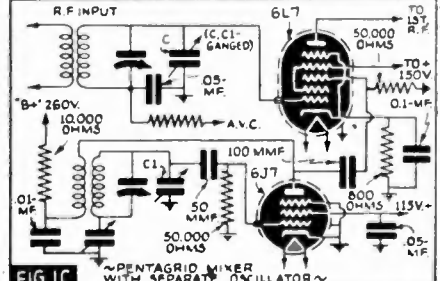

FIG 1C ~PENTAGRID MIXER WITH SEPARATE OSCILLATOR~
(3) A Pentagrid Mixer (especially designed for shortwave or all-wave circuits), having 2 separate control-grids, 1 for the R.F. signal and 1 grid for the oscillator voltage, and used with a separate oscillator tube, as shown in Fig. 1C.